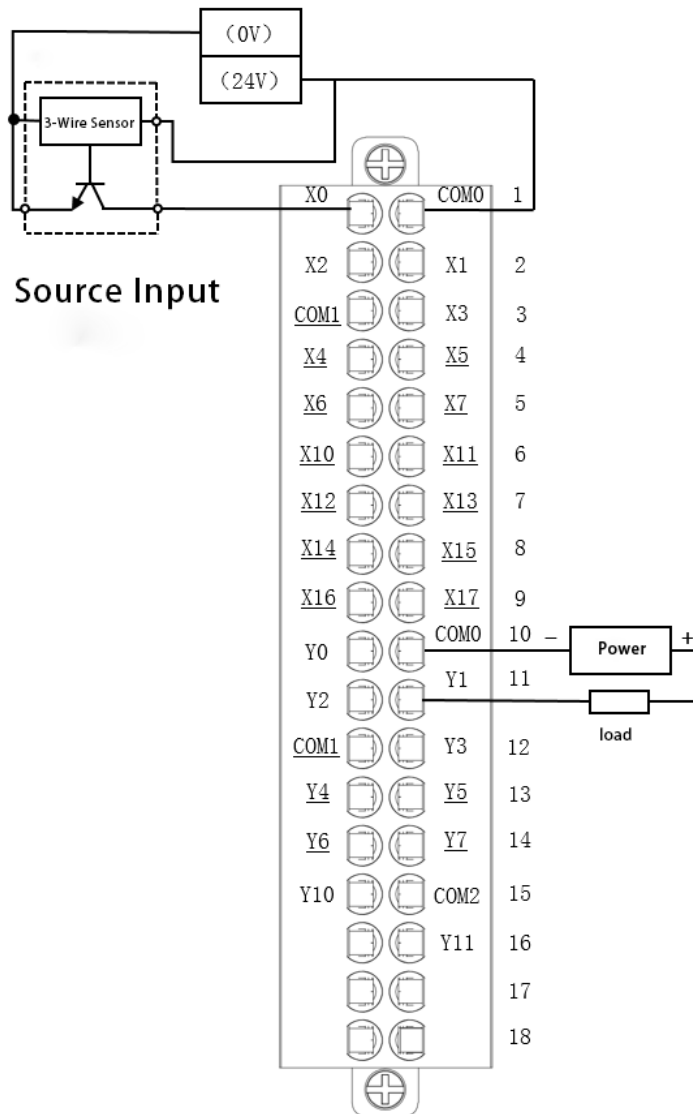

Figure 1.2 Source-type Input Port Wiring diagram
- Source-type input wiring is shown in Figure 1.2.